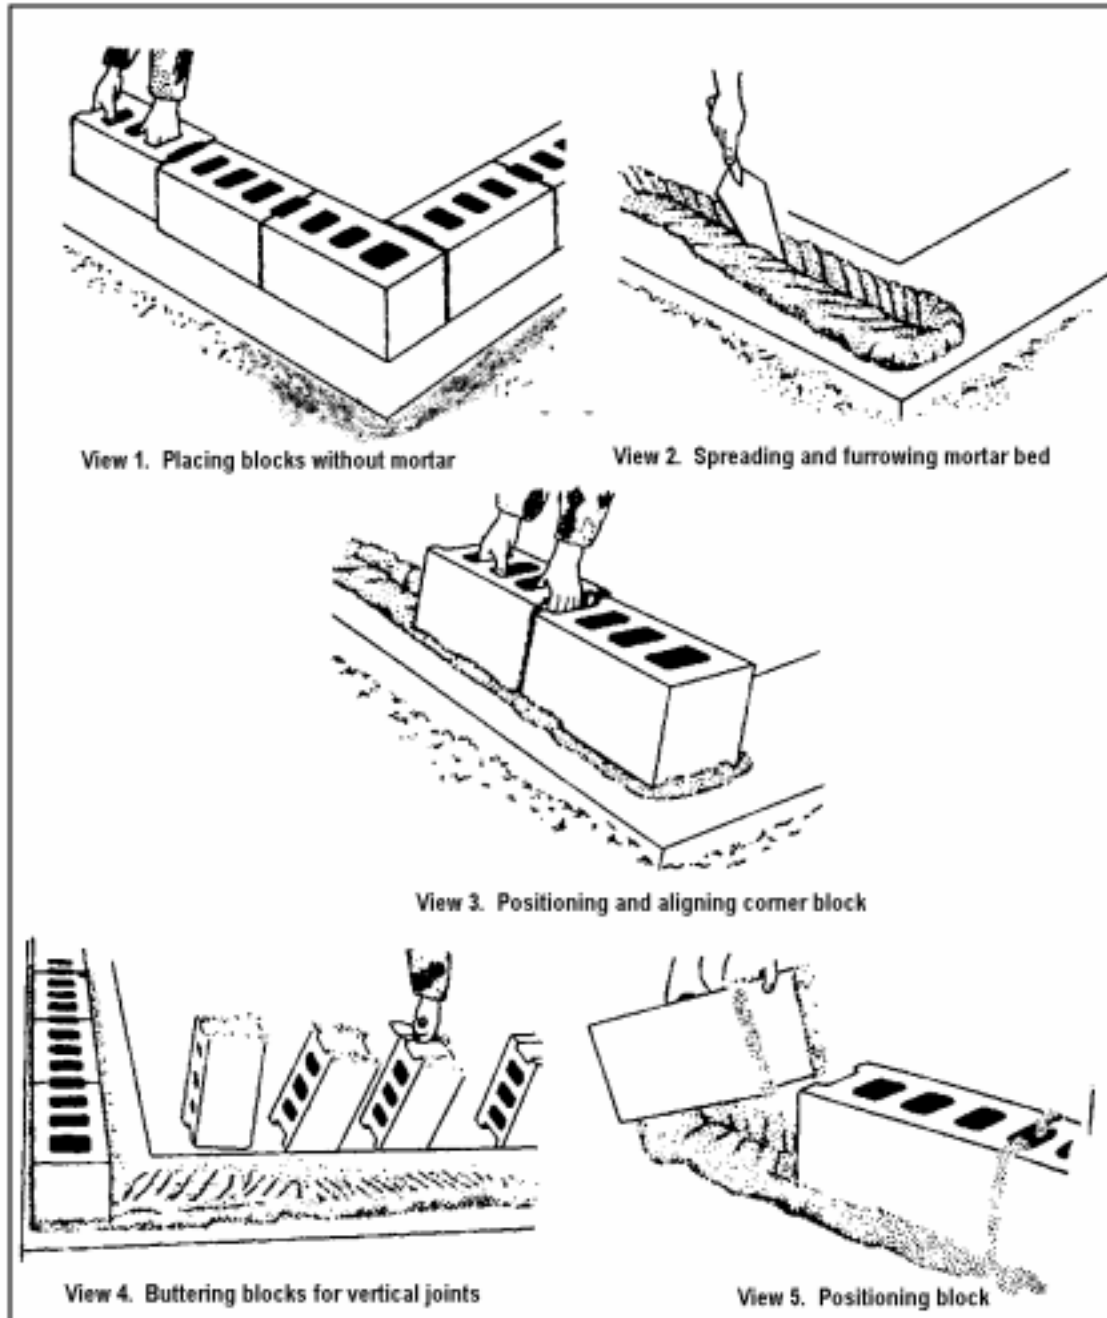

Figure 051-236-1146-1
**Conditions:** As a carpentry and masonry specialist in a field environment, given Field Manual (FM) 5-428, construction prints and specifications, a carpenter's tool kit, a masonry and concrete finisher's tool kit, a mortar mix design, a completed concrete foundation, 8- by 8- by 16-inch concrete masonry units, sand, masonry cement, lime, a water hose, a water source, anchor bolts, a 1-cubic foot measuring box, a concrete mixer, a wheel barrow, a shovel, a calculator, goggles, gloves, hearing protection, a hard hat, paper, and a pencil.
- c. Step 3. Use care to position and align the corner block first (Figure 051-236-1146-1).